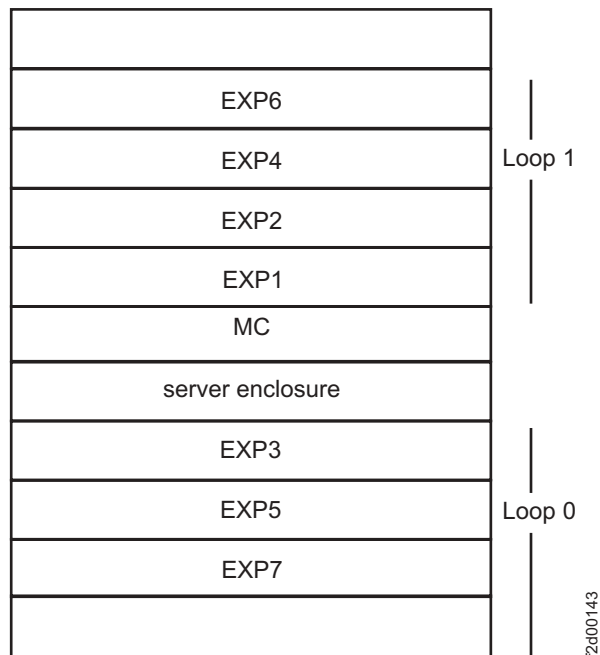

Figure 3. Recommended rack configuration
Figure 3 on page 38 shows a recommended rack configuration for a server enclosure, management console (MC), and seven expansion enclosures (labeled EXP) on Loop 1 and Loop 0. The server enclosure is located in the middle of the rack, with the management console immediately above it. The expansion enclosures for Loop 1 are installed above the management console, in descending order from the top down, with expansion enclosure 6 at the top of the rack and expansion enclosure 1 immediately above the management console. The expansion enclosures for Loop 0 are installed below the server enclosure, in ascending order, with expansion enclosure 3 immediately below the server enclosure and expansion enclosure 7 at the bottom of the rack.